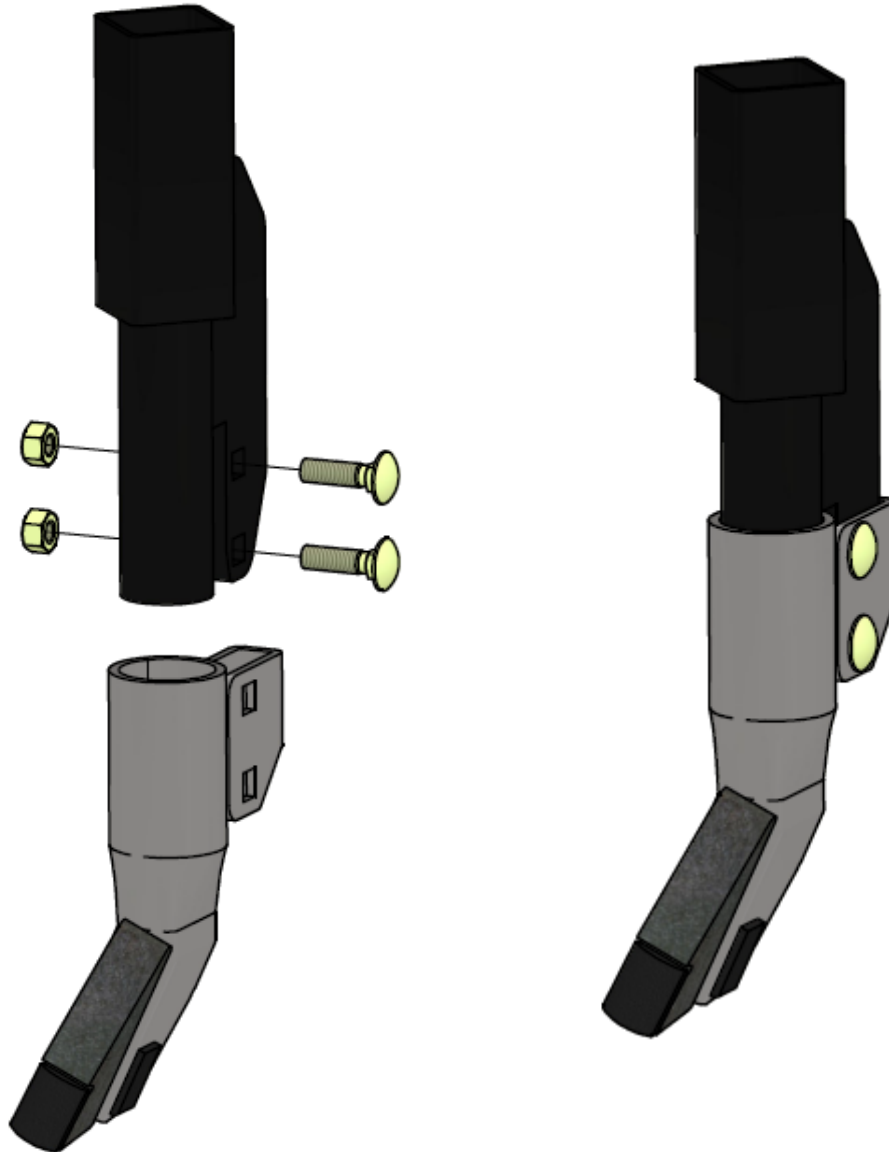

Figure 8: Single shoot seed knife installation
2. Insert the carriage bolts as shown in Figure 8